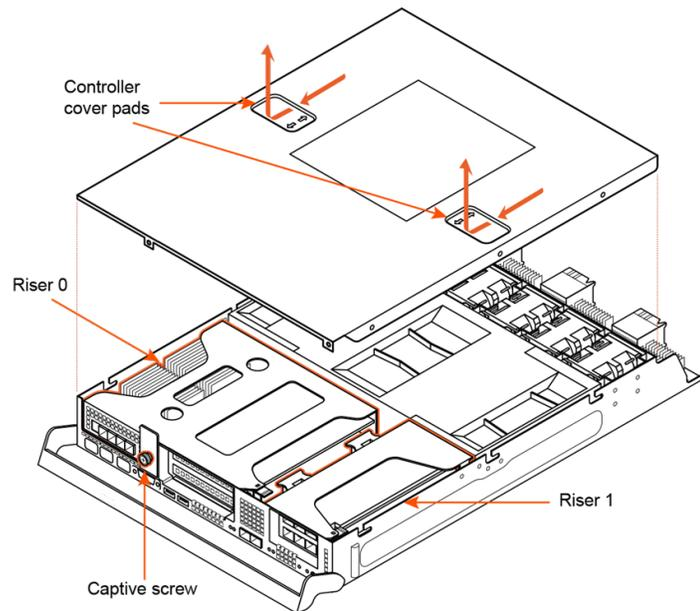

Figure 10-10. Removing the Controller Cover
2. Press the controller cover pads, slide the cover toward the retaining bar about 1/2 inch, and then lift the cover off. See Figure 10-10.